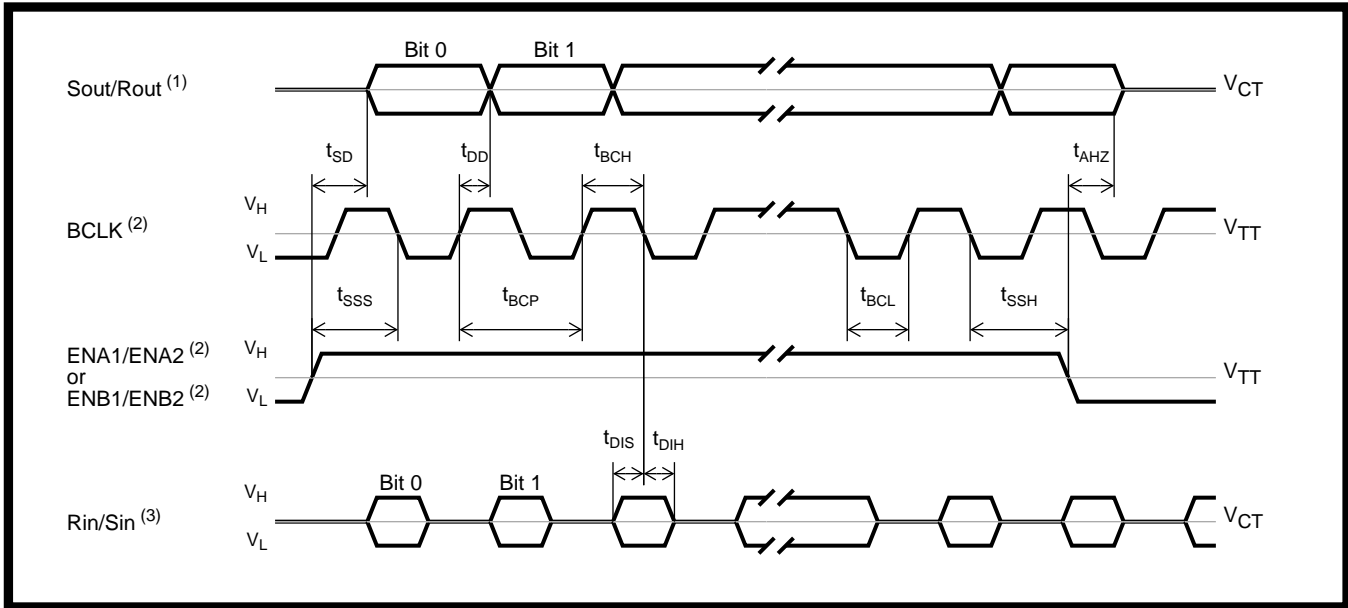

Figure 17 - SSI Data Port Timing
**AC Electrical Characteristics† - Serial Data Interfaces (see Figures 17 and 18)**Voltages are with respect to ground ( $V_{SS}$ ) unless otherwise stated.
**AC Electrical Characteristics† - Microport Timing (see Figure 17)**